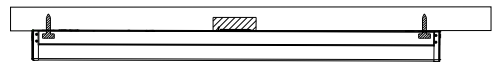

Figure 11
5. Fix the cover and end cap on the fixture. (Figure 11)